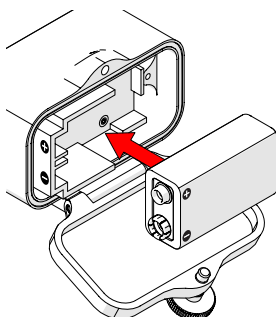

Fig. 21 - Place 9V battery in housing
3. Place the new 9V NEDA 1604 battery into the battery compartment. Ensure the polarity markers match (Fig. 21).